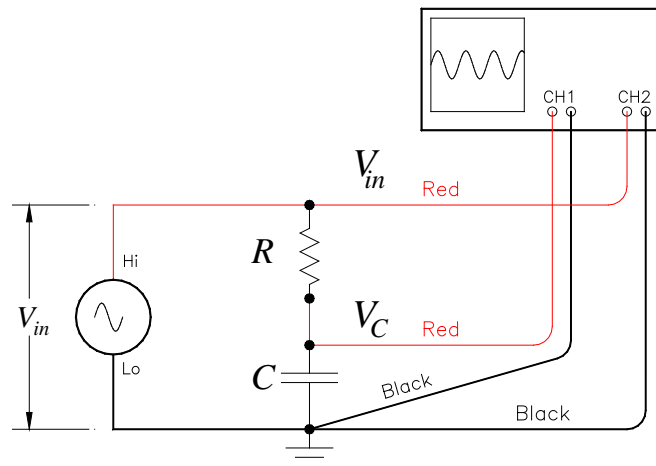

Figure 5 Wiring diagram showing how to connect both channels of the oscilloscope.
1) Connect the 10kΩ resistor and the capacitor in series with the function generator as shown in Figure 5. Turn on the oscilloscope and set it to display both CH1 and CH2. Check that Probe is set